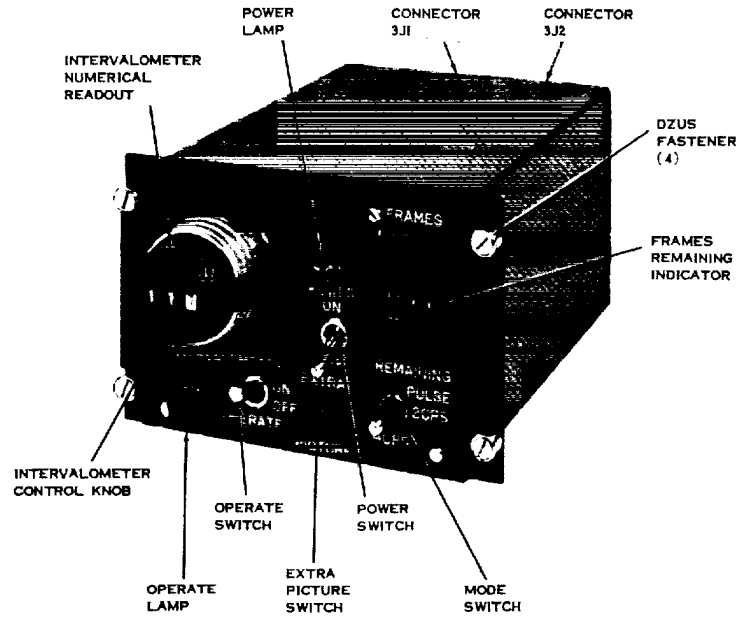

Figure 4. Control Panel.
9. Control Panel (fig. 4)
The control panel is rigidly mounted to the aircraft frame by means of four Dzus fasteners (fig. 4) and the primary power cable mates with connector 3J1. Figure 7 indicates the dimensions of the control panel.
17. Controls and Indicators (fig. 4)